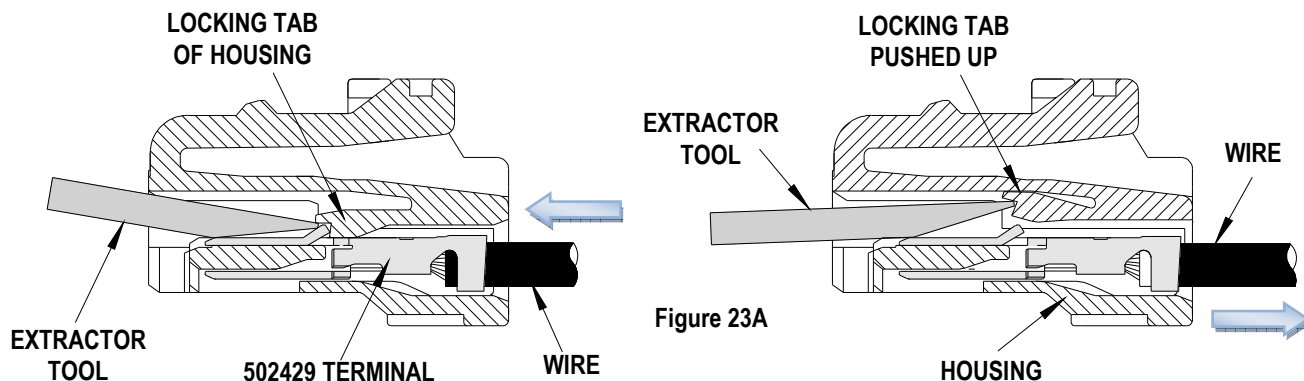

Figure 23A
2. Insert the Extractor Tool into the slot above the terminal in the connector housing as shown in Figure 23A and 23B.